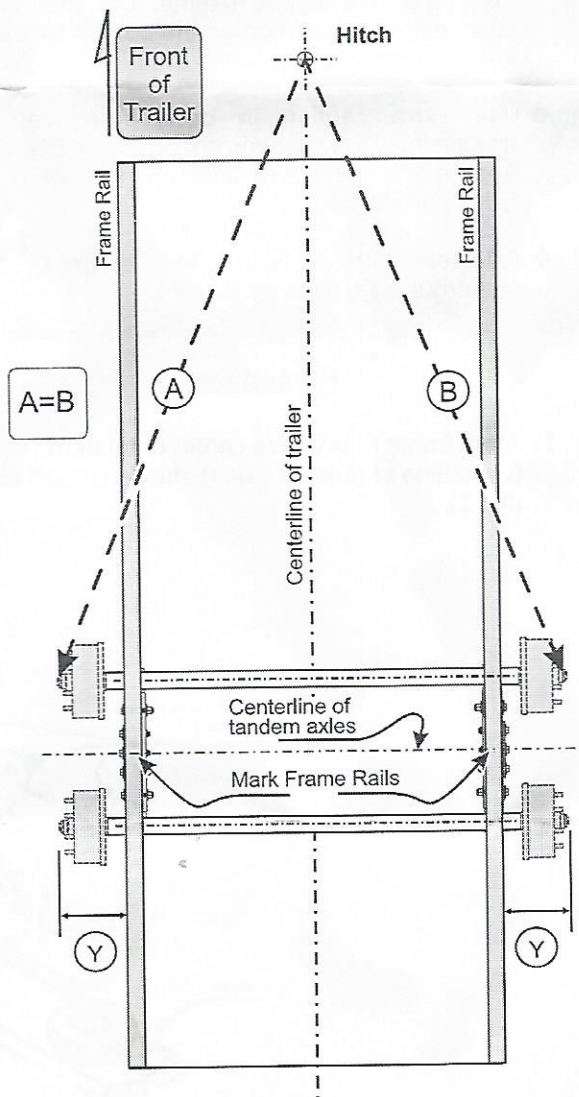

Fig. 2 Axle Alignment (View from the top)
1. Mark frame rails where center of tandem (centerline of tandem axles) should cross frame (fig. 2).
5. To align axle, locate the left hand and right hand side hangers on frame rails, opposite to each other. Move hangers along frame until center of spindles line up with marks on the frame rails, viewing from top (fig. 2). Clamp hangers to frame. Measure and compare distances "A" and "B". Reposition hangers until the difference between "A" and "B" measurements is less than 1/8".